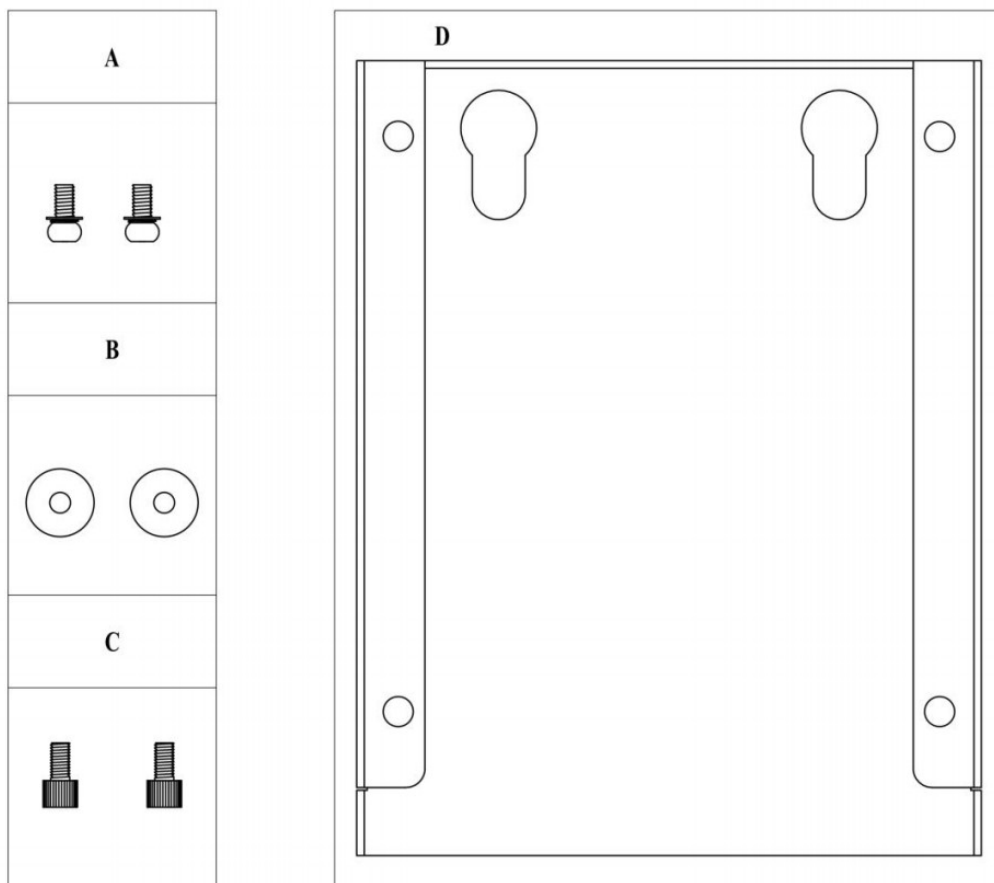

Fig. 5-1 Wall-mounting accessories
- 1 Set of wall-mounting accessories (including A+B+C+D as Fig. 5-1 shown)